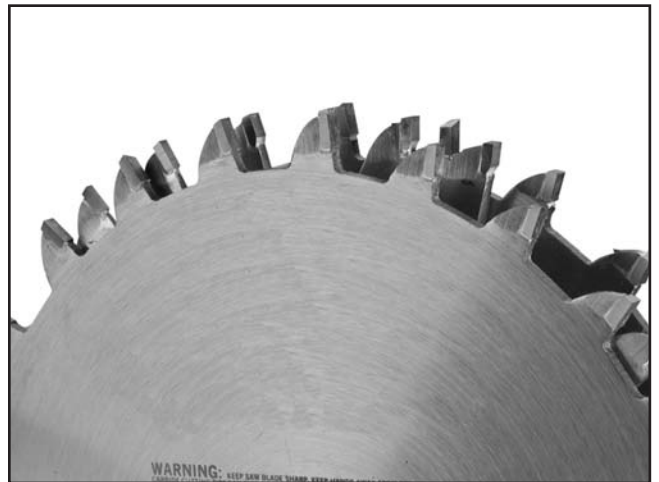

Figure 36. Stacked dado blade.
- **Stacked Dado Blade**—These dedicated dado cutting blade sets consist of up to 8 individual blades. Multiple cutters are "stacked" between two outside blades. The width of the dado is determined by the combination of cutters that are "stacked" together. The dado is cut in a single pass leaving a smooth and square channel in the face of the workpiece. Stacked dado blades are the most expensive option, but are worth considering if your projects require a lot of visible dado cuts. A stacked dado blade is shown in **Figure 36**.